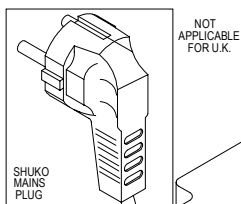

Fig. 1
- C. Undo the two side screws on the panel using the VT screwdriver and turn it to the position shown in fig.1 (pos. 1).
- D. After pulling the panel downwards, undo the four rear screws on the housing and open the electrical control box by lifting the cover as shown in fig.1.
- Connect the yellow/green wire to the terminal marked with the earth symbol "⏚" (see fig.1).